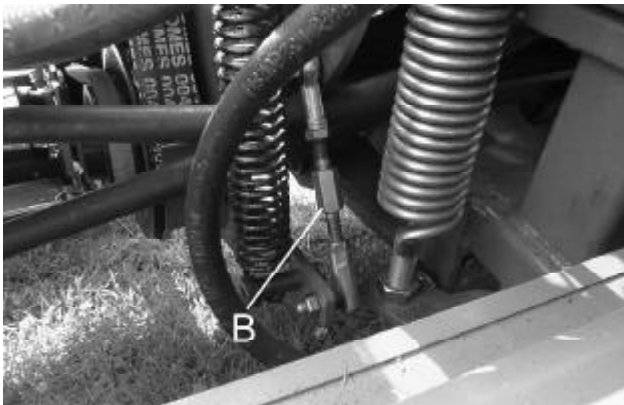

Fig.27.1
- (b) Set length of adjuster (B Fig.27.1) to obtain correct belt tension. The belt is correctly tensioned when a deflection of 7mm can be achieved when a force of 3kg/30N/6.7lbs is applied midway between the 2 pulley centres.
- (a) Turn adjuster link (B Fig.27.1)) anti-clockwise 2 complete turns..
- (a) Draai de stelschroefverbinding (B. Afb.27.1) twee volledige slagen linksom.